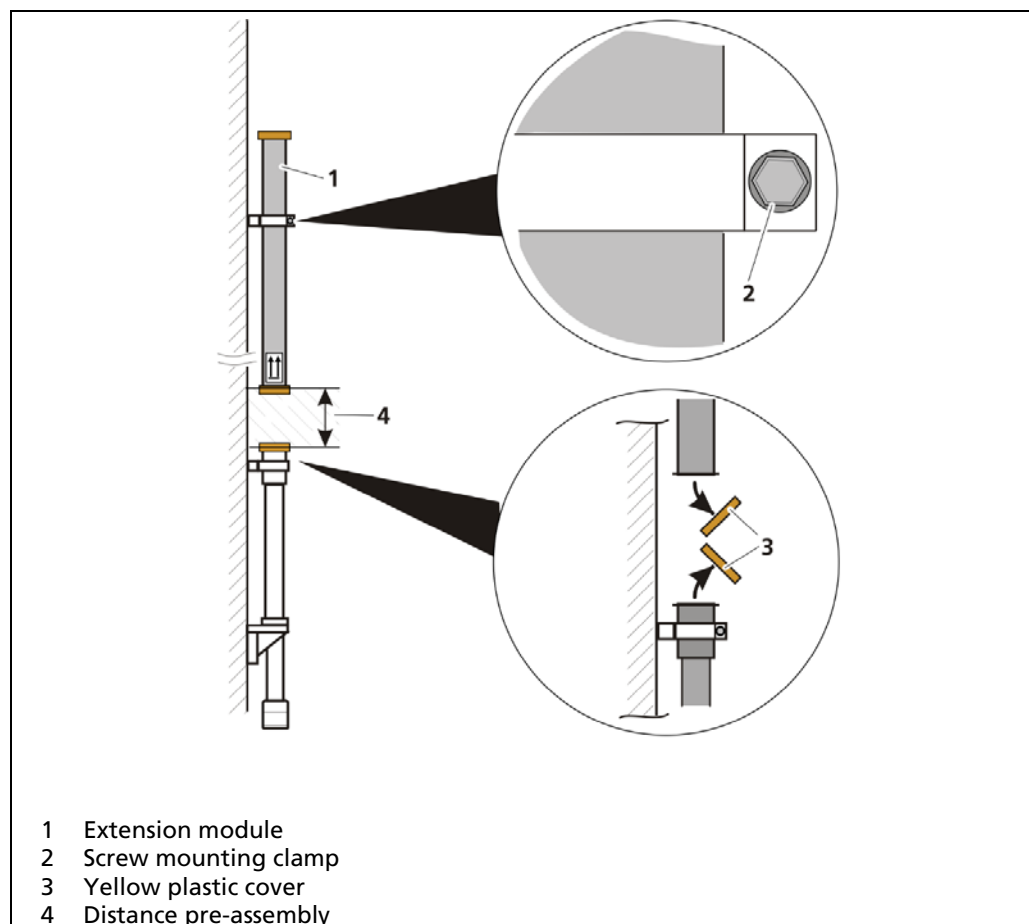
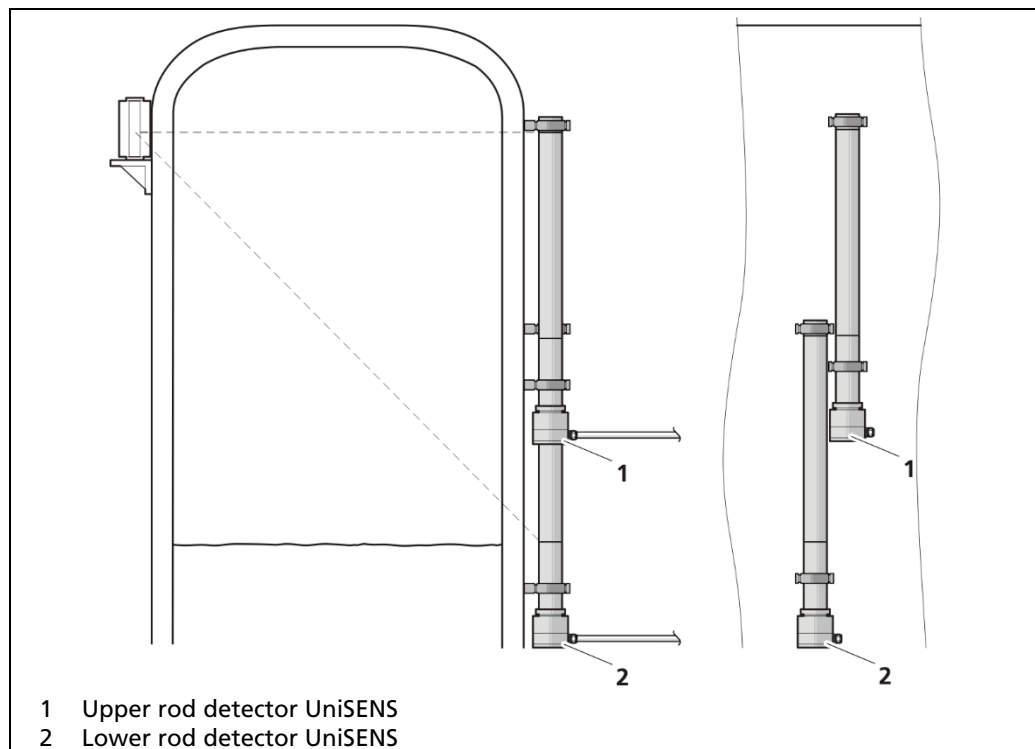

Fig. 16 Install extension module
Fig. 20 Multi-detector arrangement (exemplary)
8. Position the extension module (Fig. 16, item 1) on the basic module and secure it with respective mounting clamp (screw) (Fig. 20, item 2).
9. Slightly open the mounting clamp (Fig. 16, item 2), move the extension module up by approximately 20 cm (Fig. 16, item 4) and secure it in this position by fastening the mounting clamp again (Fig. 16, item 2).
10. Remove the yellow plastic cover (Fig. 16, item 3) from the basic module and the bottom extension module. **Protect the module end faces from dirt and moisture!**